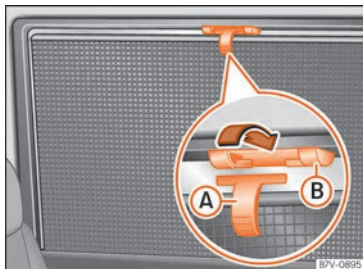

**Fig. 127** On the rear right-hand window: curtain.
- Pull the sun blind by the handle » **Fig. 127** **A** up to the top.